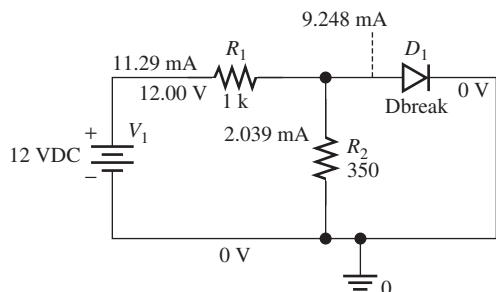

FIGURE 8.84 PSpice schematic for Example 8.30(a).
2. Set up the PSpice schematic shown in Figure 8.84 and run the simulation analysis as “Bias Point” (see Figure 2.71).